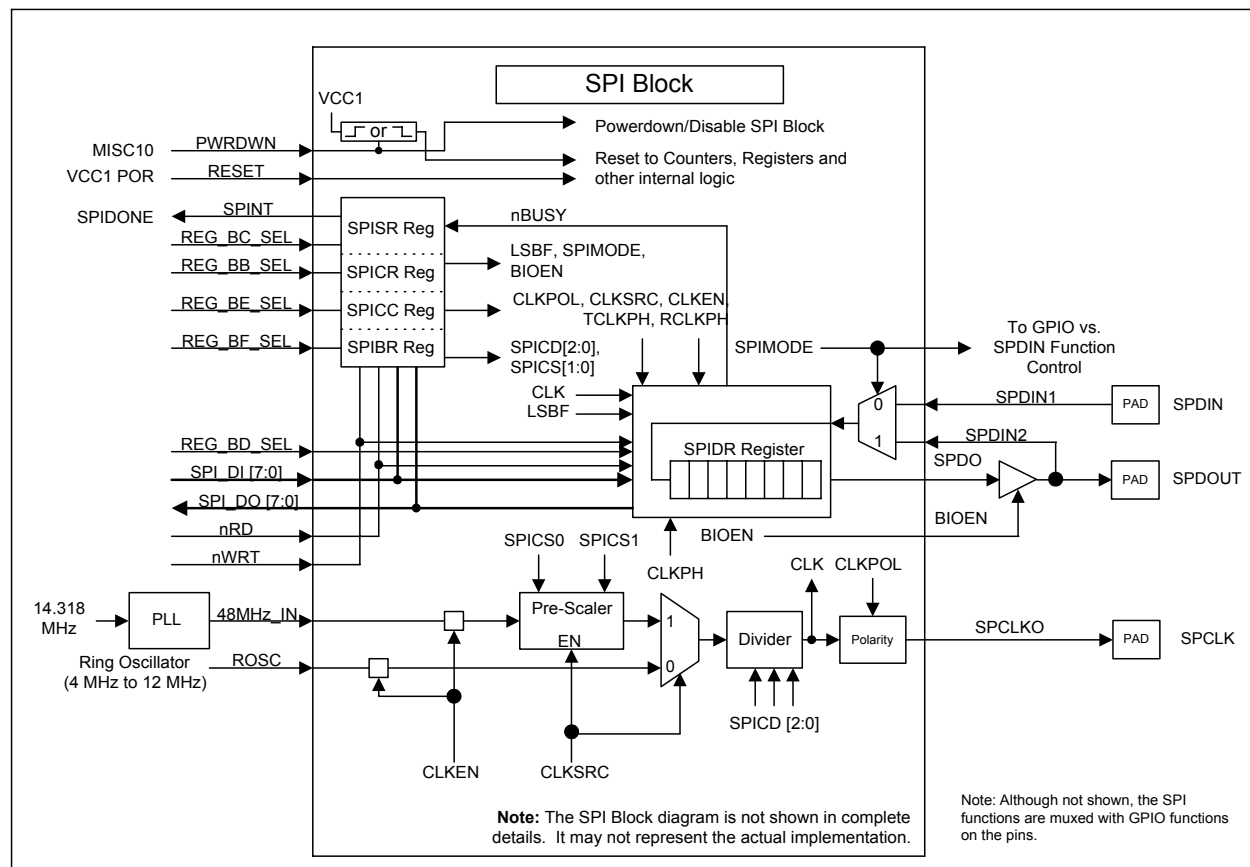

Figure 16.1 SPI Block Diagram
Figure 16.1 shows the SPI block diagram. See Section 16.3, "Interface Description," on page 176, Section 16.4, "SGPIO vs. SPI Function Control," on page 177, Section 16.7, "SPI Registers," on page 179, and Section 16.8, "SPIDONE - 8051 Interrupt," on page 185 for description on SPI block signals, SPI pins and registers.
- The LPC47N350 SPI can be configured to operate in two modes: Full Duplex and Bidirectional (see Figure 16.1 on page 175). See Section 16.5.1, "Full Duplex Mode" and Section 16.5.2, "Bidirectional Mode" for detailed descriptions of each operating mode.
- In Full Duplex Mode, serial data is transmitted and received simultaneously by the SPI master over two separate data transmission lines as shown in Figure 16.1 on page 175. See Section 16.7.1.2, "D1 - SPIMODE - SPI Mode," on page 180 for SPI mode configuration.
- Input and output serial data share the SDO pin, as shown in Figure 16.1 on page 175 using the BIOEN bit (See Section 16.7.1.3, "D2 - BIOEN - Bidirectional Mode Output Enable," on page 180).
- The LPC47N350 SPI can be configured to run from the Ring Oscillator or a PLL source (See Section 16.7.4.3, "D2 - CLKSRC - SPI Clock Source," on page 183 and Section 16.7.4.4, "D3 - CLKEN - Clock Enable," on page 183). The PLL uses the 14.318 MHz input clock and is active under VCC2 power only. The Ring Oscillator frequency range is from 4MHz to 12 MHz. See Figure 16.1.
When the SPI is configured for Bidirectional Mode (see Section 16.7.1.2, "D1 - SPIMODE - SPI Mode"), the BIOEN bit controls access to SDOUT. When BIOEN is deasserted '0', the SDOUT signal is configured as the serial data input. When BIOEN is asserted '1', the SDOUT signal is configured as the serial data output. See Figure 16.1 for details.